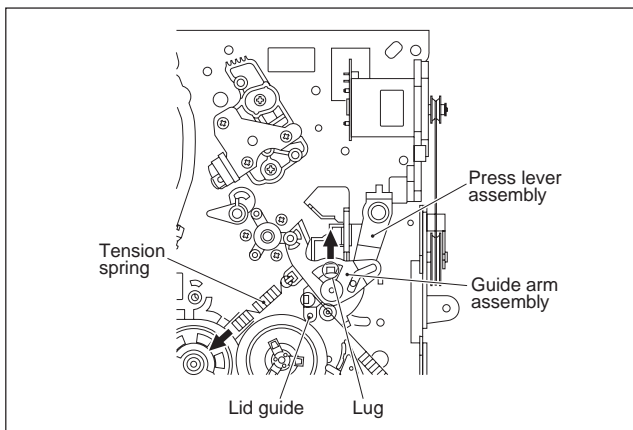

Fig.3-2-5a
- (1) Remove the spring and expand the lug of the lid guide in the arrow-indicated direction. Then remove the guide arm assembly by pulling it up.
- (2) Remove the press lever assembly by pulling it up. (See Fig.3-2-5a.)